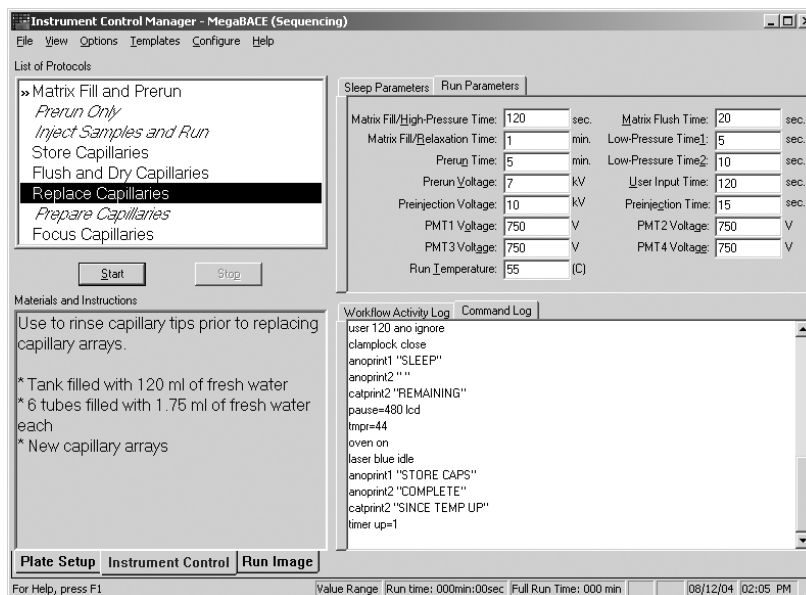

Figure 7-3. The Instrument Control window.
1. In the Instrument Control window (figure 7-3), click the **Replace Capillaries** protocol, and then click **Start**.